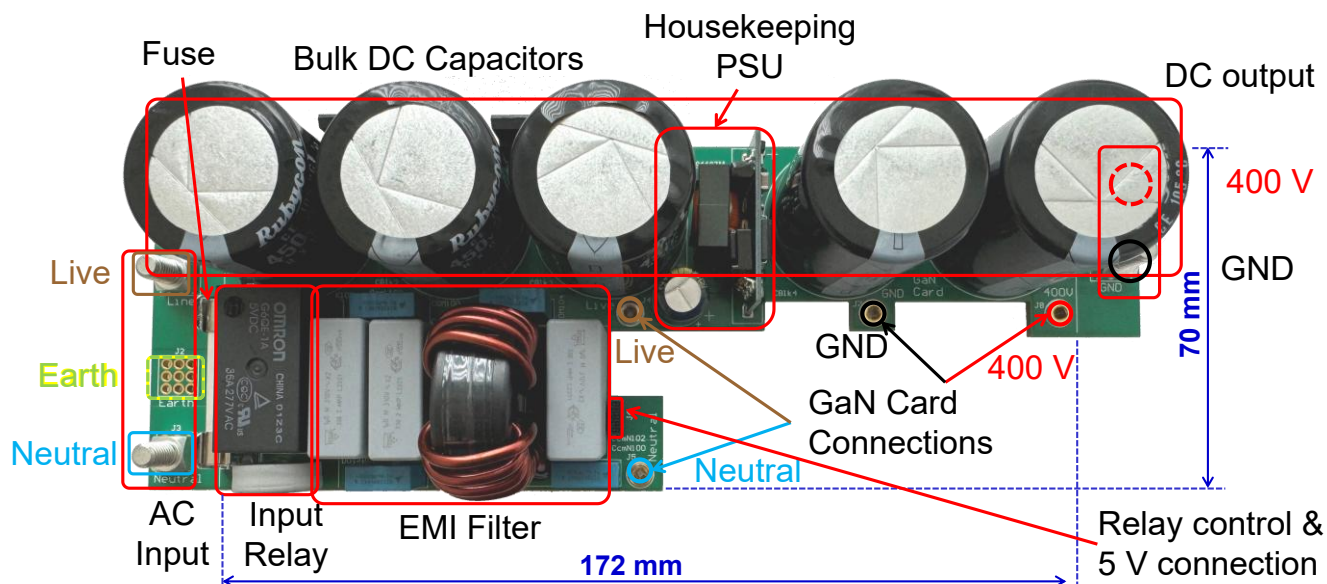

Figure 4: Top view of the EPC91107KIT motherboard EPC91107M showing the main circuit elements.
- 1) EPC91107M – Main motherboard with in-rush current limit circuit, EMI filter, housekeeping power supply, main bus capacitors and connections for the GaN board assembly (EPC91107P) and is shown in Figures 4 and 5,